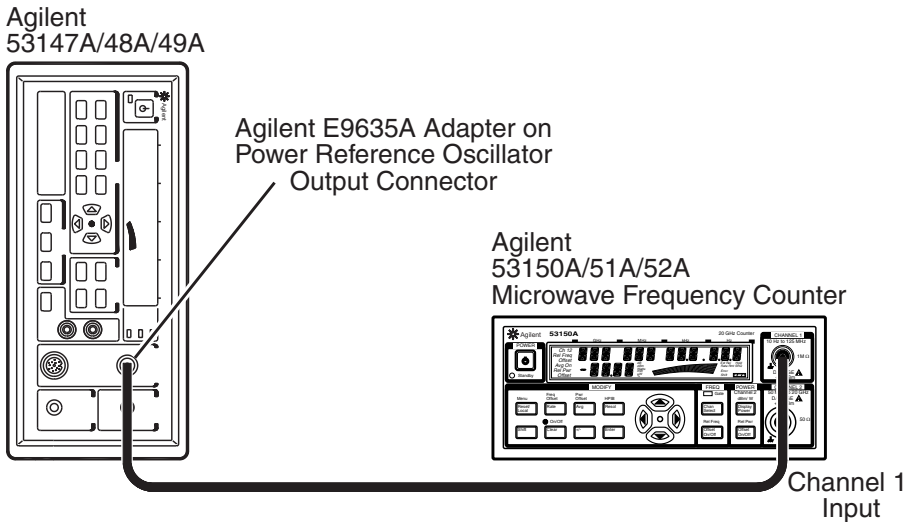

Figure 2-2. Reference Oscillator Frequency Adjustment Setup
- 3** Position the Agilent 53147A/48A/49A on its right side so that you have access to the front panel and the left side of the main circuit board (see Figure 2-2).
- 6 Connect an Agilent E9635A adapter to the Power Meter OUTPUT connector as shown in Figure 2-2.